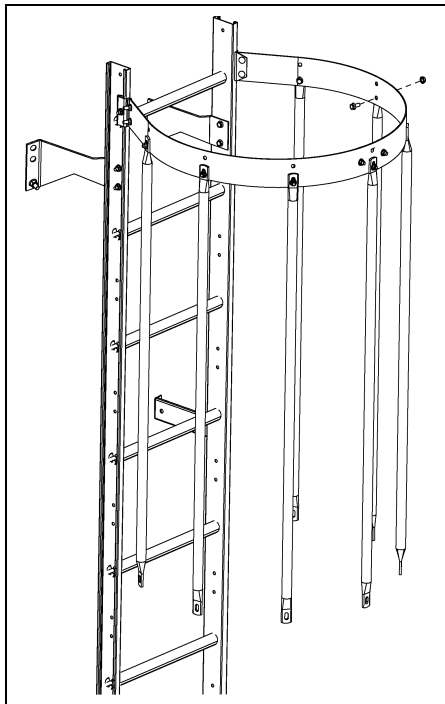

Figure 8G
4. Snug bolt seven (7) vertical supports to safety cage hop halves. *(See Figure 8G.)*
5. Snug bolt top safety cage assembly to outside ladder brackets. *(See Figure 8G.)*